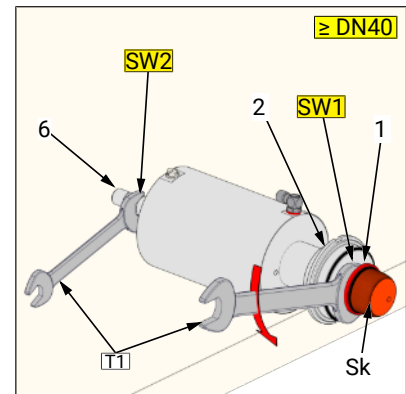

Figure 4
- Fig. 4 Dismounting via spanner flat (SW1) (\geq DN40).
- So that the bore (B1) will be visible, first unscrew the insert (2) as shown in figure.
- Unscrew the piston (1) respectively the flow cone (Sk) from the spindle (6) with a pin wrench (T10).